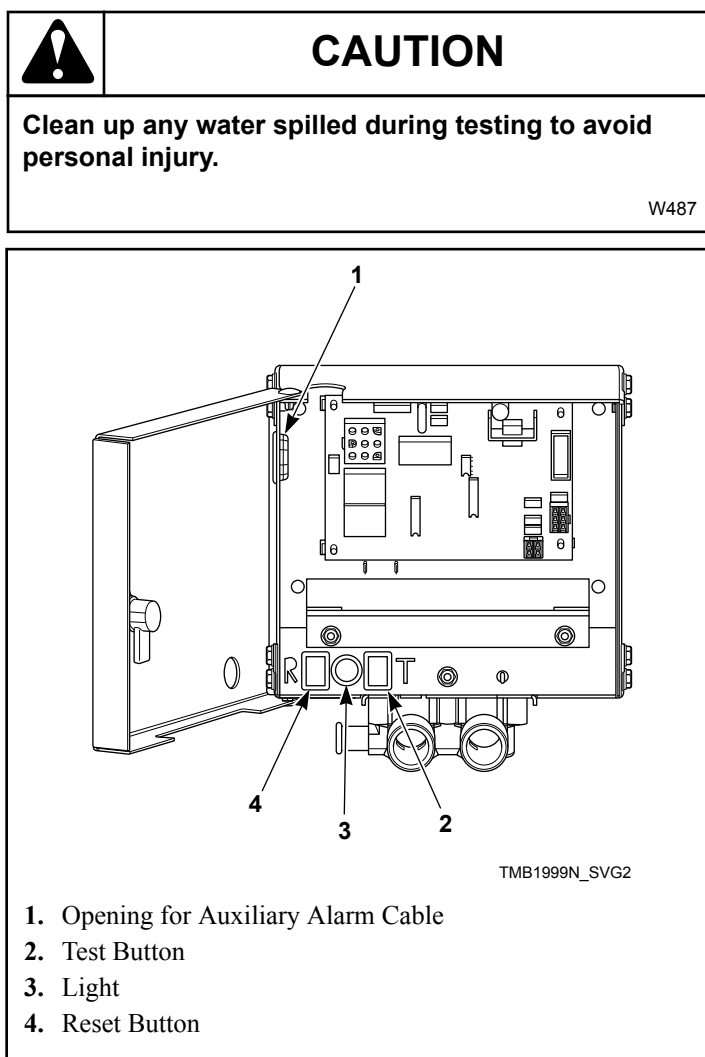
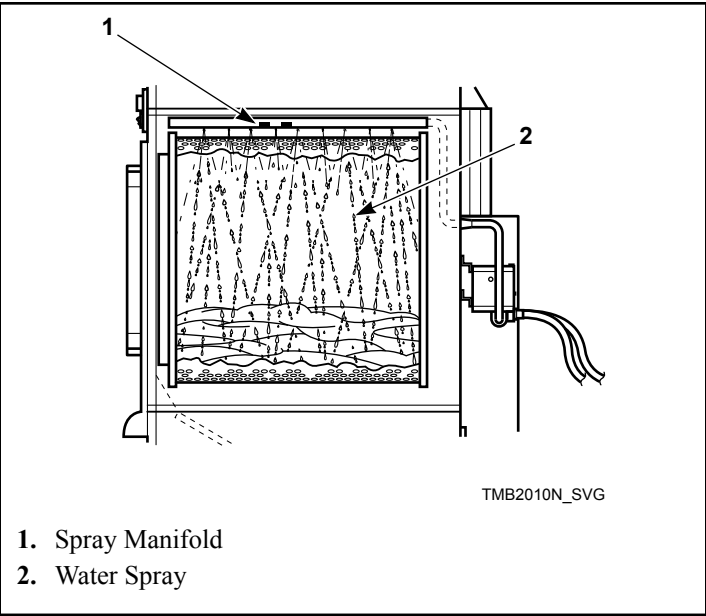

Figure 50
Figure 51
6. Press and hold the test button, verify the light is on, this should take approximately five seconds. Refer to *Figure 50*. After a one-second pause water should begin to spray into the cylinder.
7. After 15 seconds of water spray, press and hold the reset button until water spray is off and light is off. This should take approximately one second. Refer to *Figure 50* and *Figure 51*.